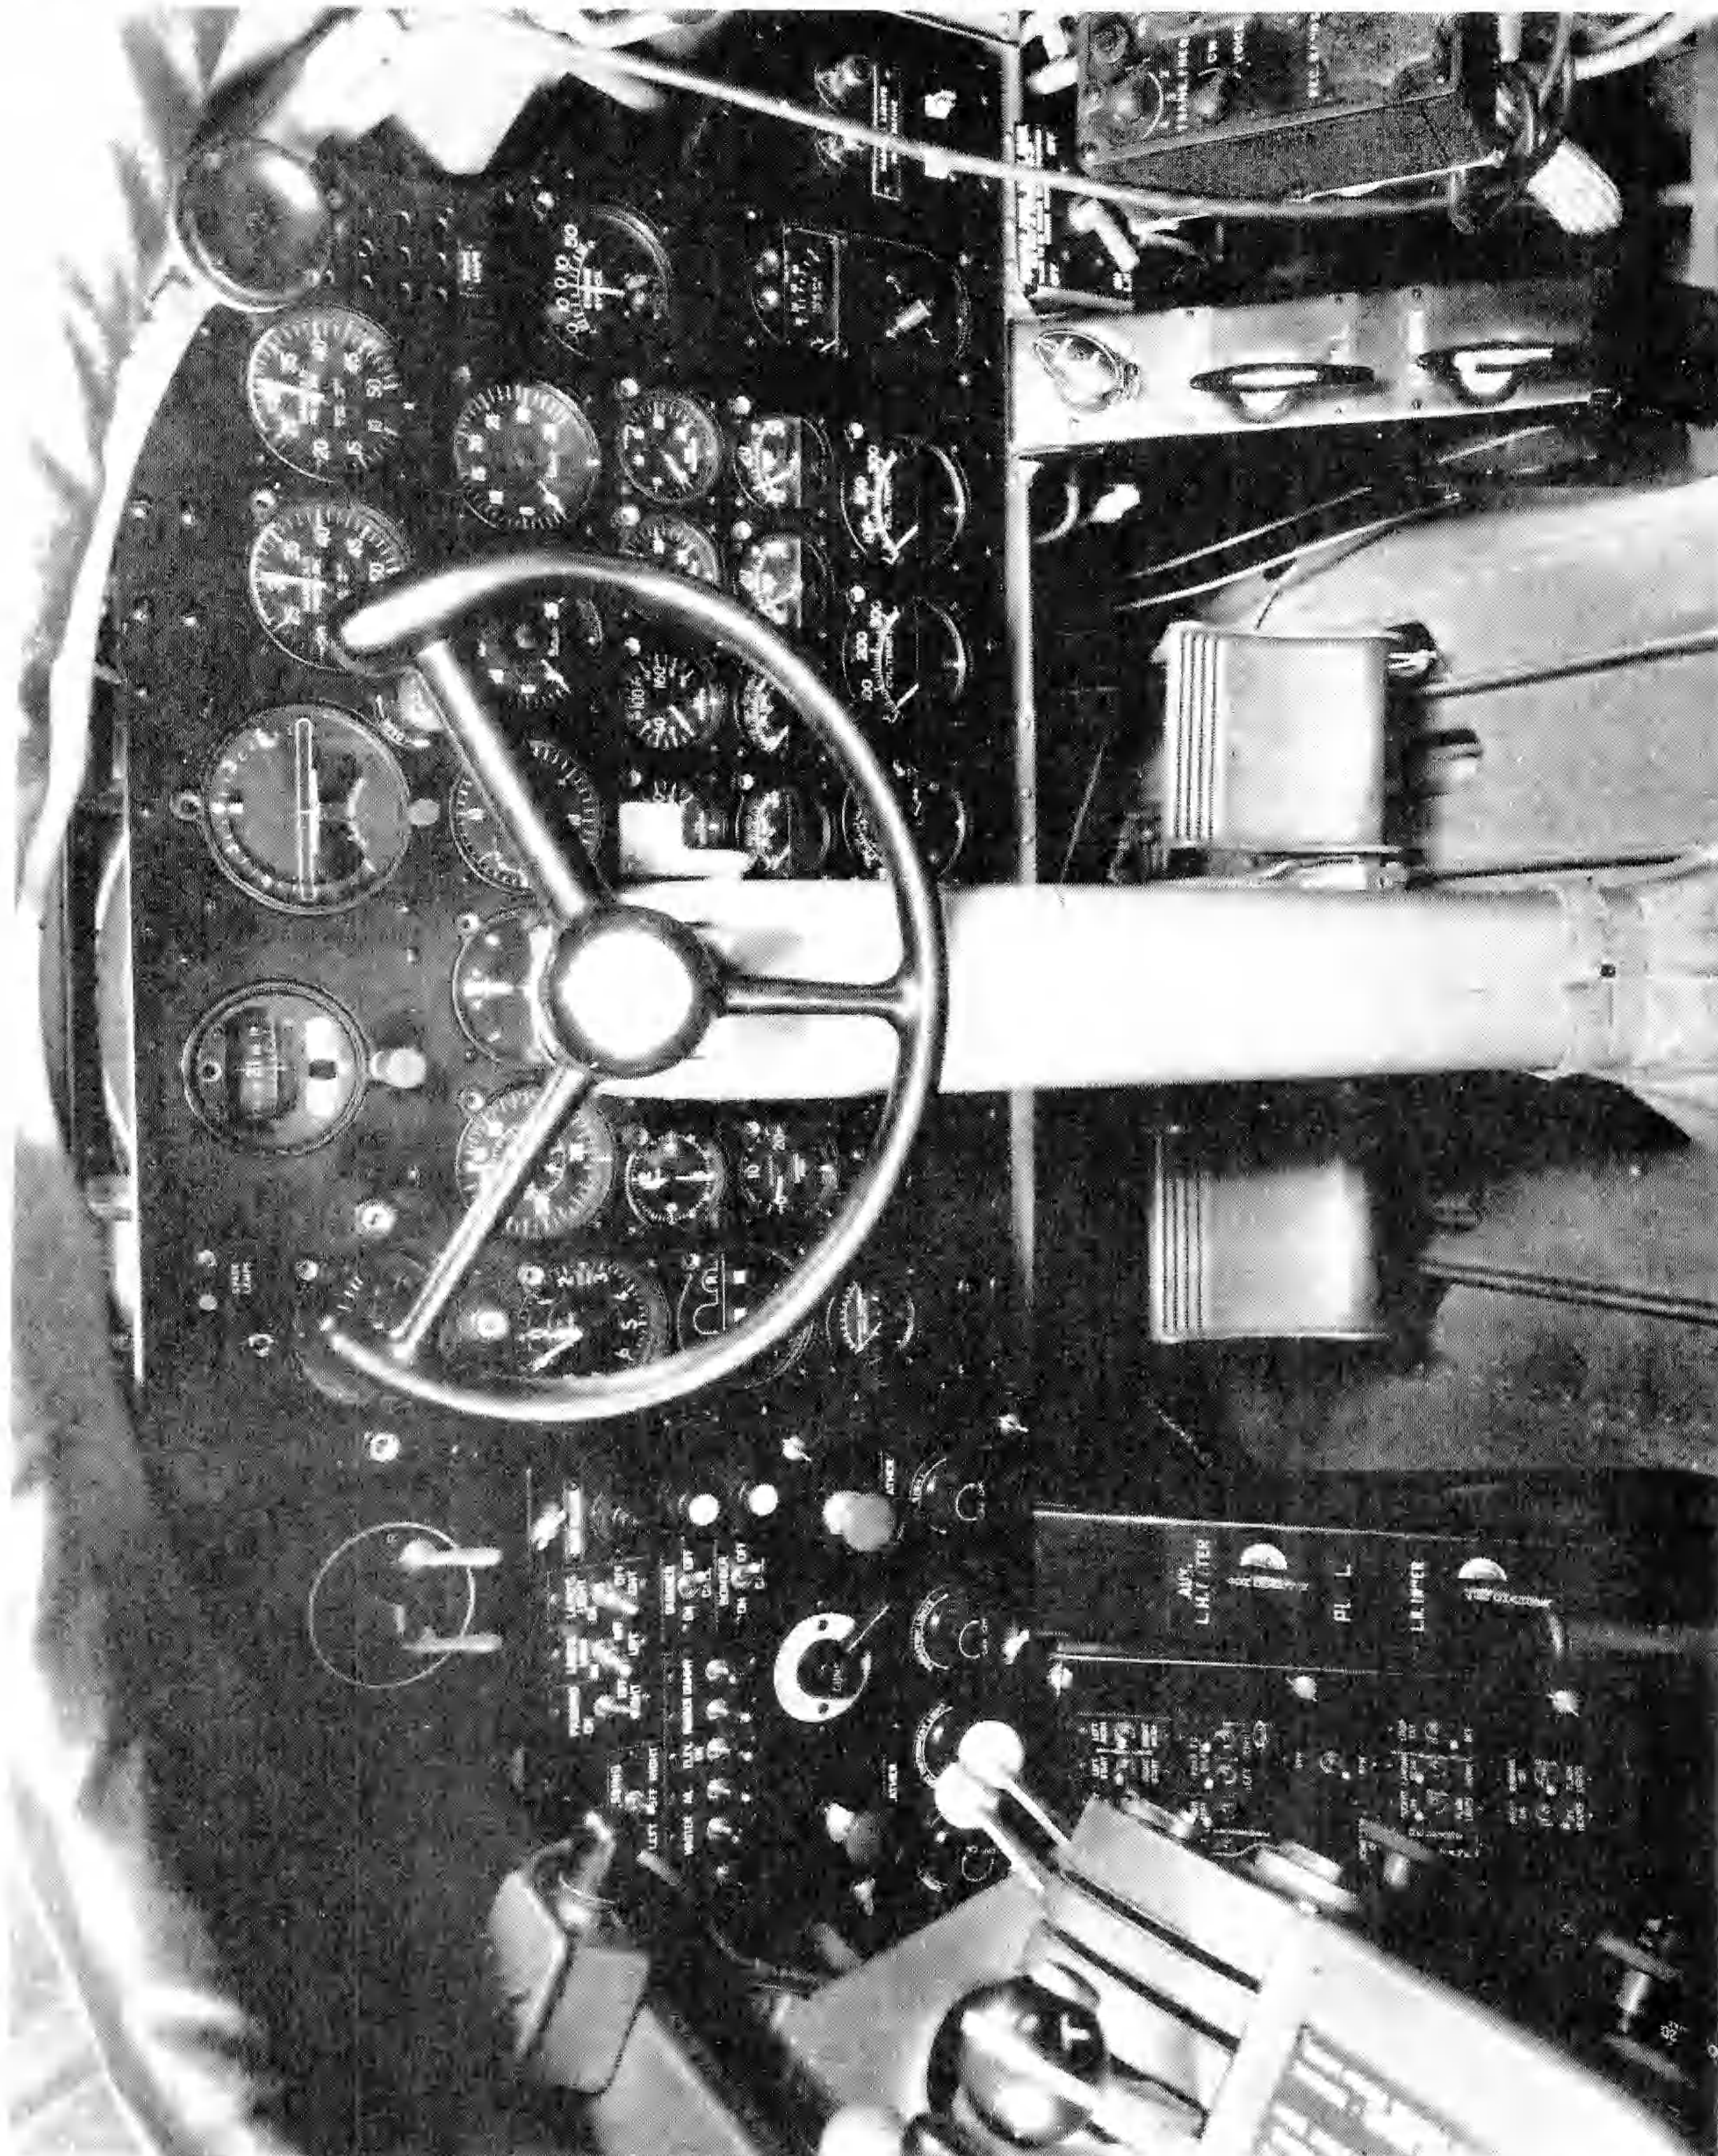

FIG. 4-PILOT'S INSTRUMENT AND ELECTRICAL PANELS
1. Location of Controls. - See Figures 4 to 10 Inclusive.
a. Flight Controls. - (1) Rudder Pedal Adjustment: On inner side of each rudder pedal.
(2) Aileron, Elevator and Rudder Tabs: On tab control box located on the right side of the pilot's compartment.
(3) Flaps: Hydraulic control on panel at left side of pilot's seat.
b. Landing Gear Controls. - (1) Hydraulic Control: On panel at left side of pilot's seat.